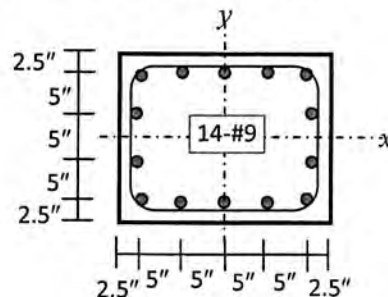

Fig: 2
2. For the tied column section shown below in **Fig: 2** [with $f'_c= 3$ ksi, $f_y = 60$ ksi] , use the WSD to